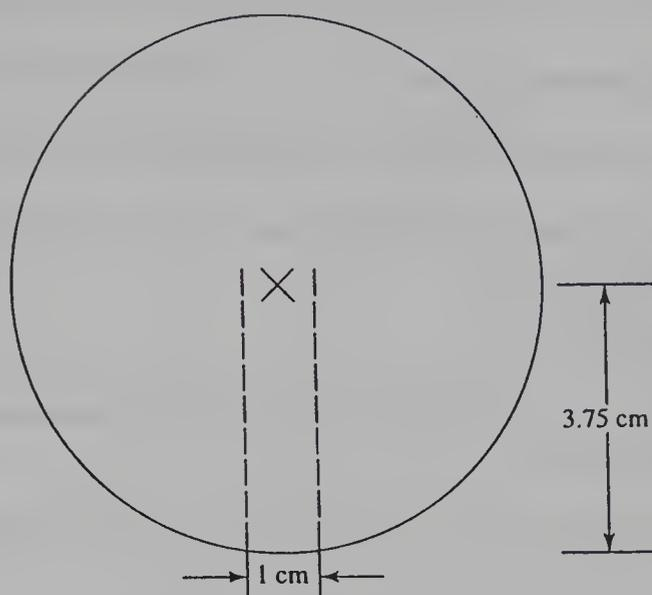

Figure 32-2. Cutting Diagram for Filter Paper
1. Obtain a piece of 7.5 cm filter paper and cut a strip (along the dotted lines) as shown in Figure 32-2. The cuts extend to the center of the paper. This strip will act as a wick in this experiment.